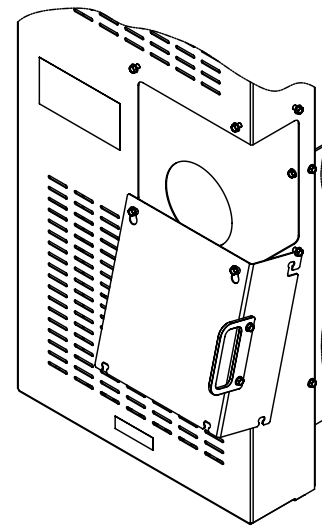

Figure 10 - Storing Inspection Cover
2. Slide the inspection cover up to align the larger holes in the slots with the screw heads and then slide the inspection cover away from the front cover. To temporarily store the inspection cover, hang the inspection cover on the lower screws. Refer to Figure 10.